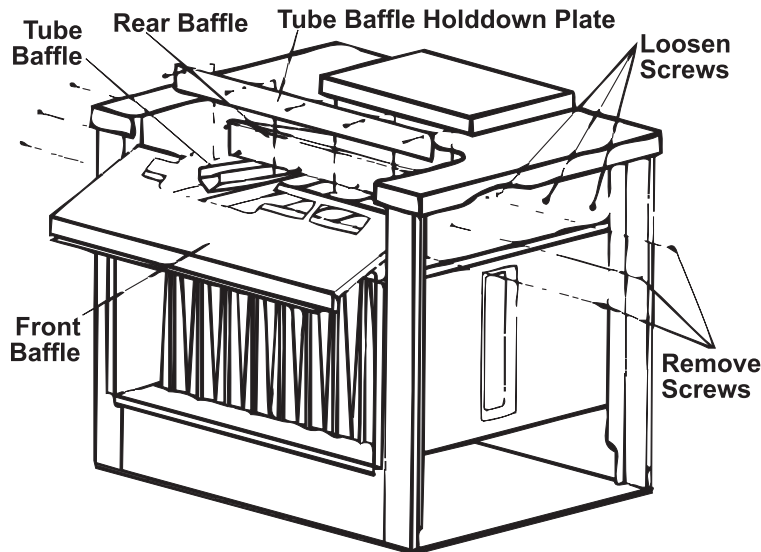

Figure 25. Heat Exchanger V-Baffles Removal
- b. Remove heat exchanger V-baffles (see Figure 25):
- (1) Remove screws (number varies depending on unit size) along bottom of front baffle and three on each end.
- (2) Slide front baffle out of furnace.
- (3) Remove screws that secure tube baffle hold-down plate to rear flue baffle.
- (4) Pull V-baffles out of heat exchanger.